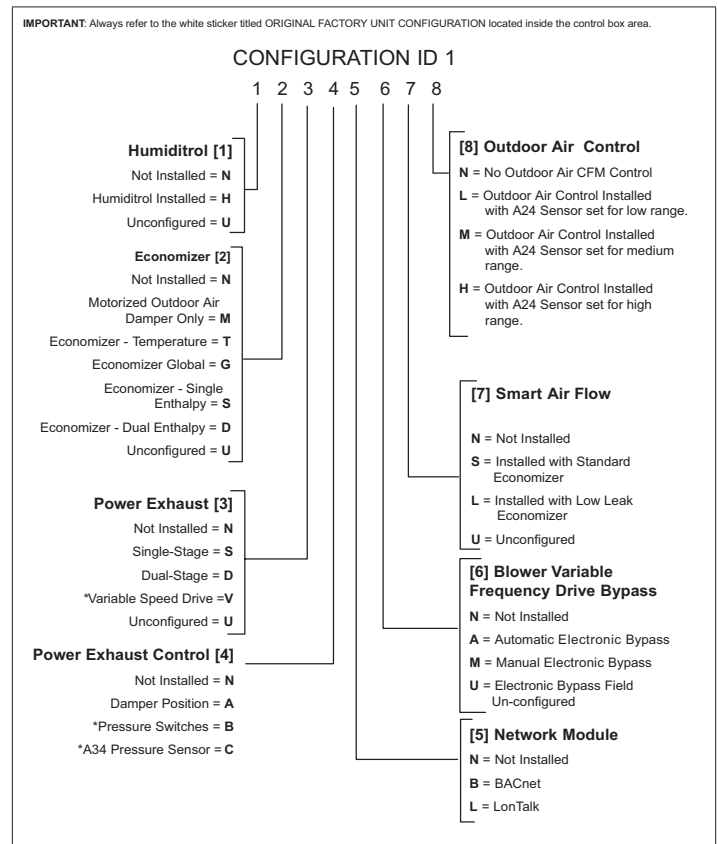
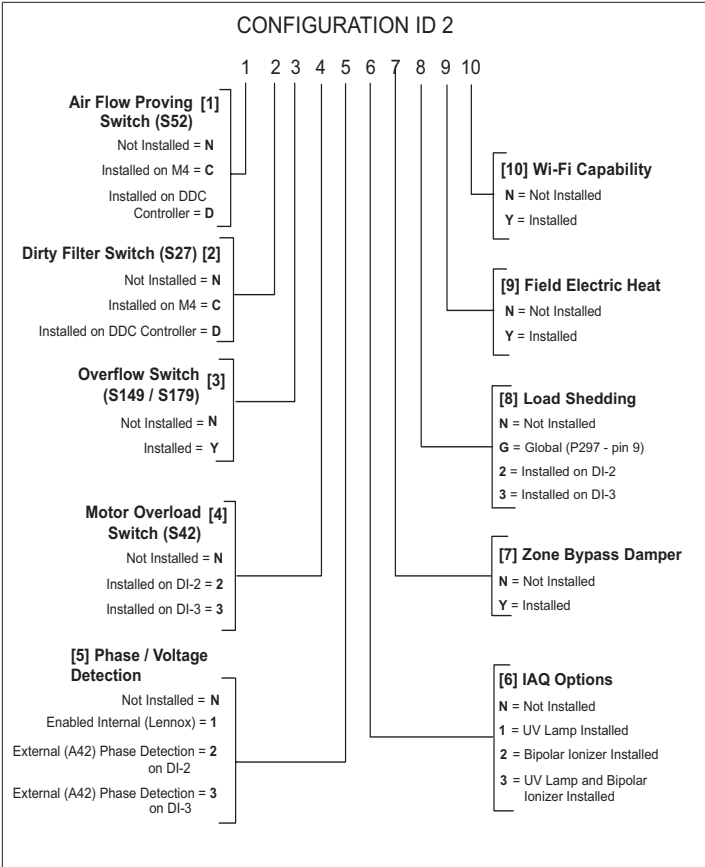

Figure 38. Configuration ID 1
Figure 39. Configuration ID 2
- RTU Information. Configuration ID 1 and 2 can be entered here. See figures “Figure 38. Configuration ID 1” on page 67 and “Figure 39. Configuration ID 2” on page 68 for further details.